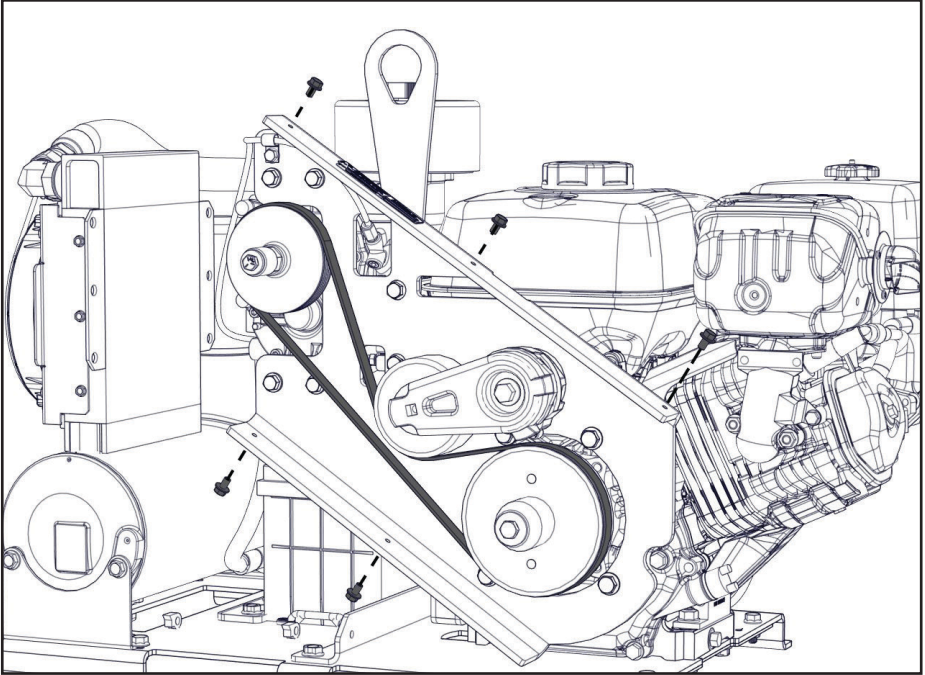

Figure 67 — Remove the belt guard
- ☐ Remove the (x5) fasteners from the belt guard and remove the belt guard (Figure 67).